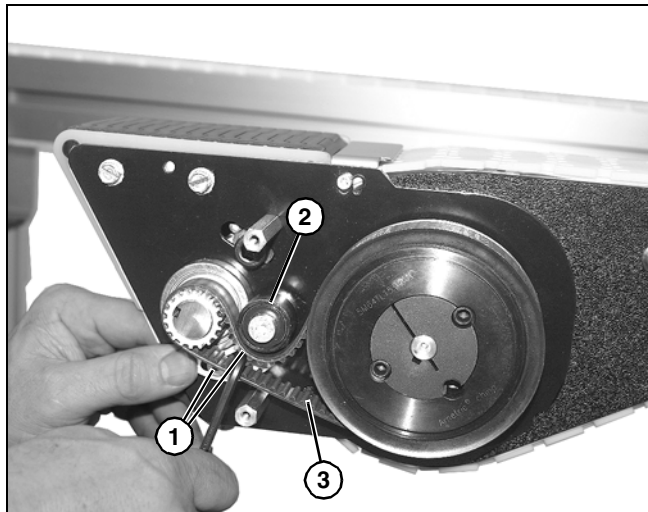

Figure 90
3. Loosen two socket head screws (Figure 90, item 1) holding tensioning pulley (Figure 90, item 2) onto timing belt (Figure 90, item 3).
4. Remove timing belt (Figure 90, item 3) from assembly.